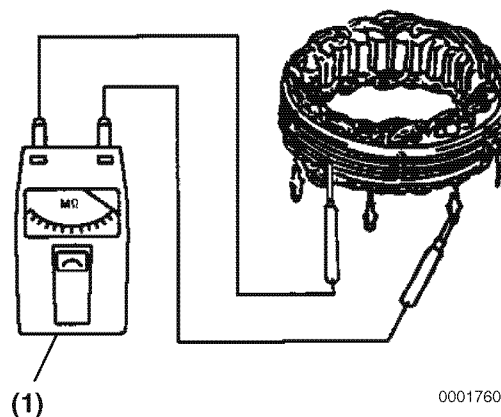

Figure 11-13
Check the insulation between the coil terminal and the core using a 500 V Megger tester (Figure 11-13, (1)).